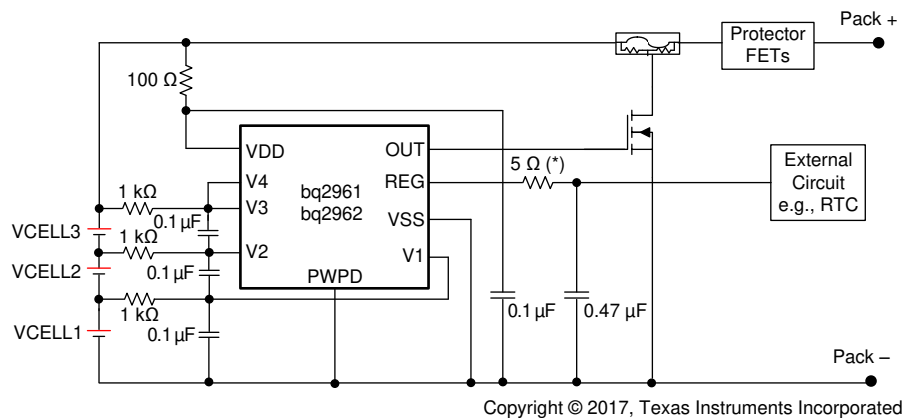
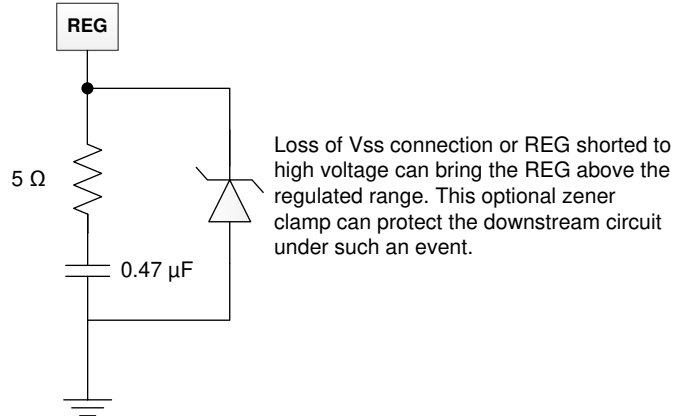

Figure 9-2. 3-Series BQ2961 and BQ2962 Schematic
Figure 9-3. 5-V Zener Diode
1. If the VSS pin cannot be connected first, it is required to add a resistor of a minimum of 5 Ω to a maximum of 10 Ω (a 5- Ω resistor is used in the reference schematic, Figure 9-2) in series with the REG capacitor. When VSS is floating, the REG capacitor always charges up to the VDD voltage. When VSS is finally connected, the REG capacitor will be discharged. Adding a small resistor in series reduces the current strength and avoids any potential damage to the REG pin. The 5- Ω resistor can be placed in series with the REG connect circuit (as shown in Figure 9-2) or in series of the REG capacitor (as shown in Figure 9-3). Placing the resistor in series with the REG circuit results in a small drop of V_{REG} (for example: max loading of I_{REG} mA with a 5- Ω resistor will drop 5 mV on V_{REG}), but such a connection can protect against rush current discharge from a REG capacitor or an external filter capacitor connected to the REG pin. Placing the resistor in series with the REG capacitor is an alternative to avoiding an additional drop in V_{REG} if the filter capacitor used by the external circuit is much smaller than the REG capacitor.
3. The cell should be connected to the lower V_n pin; the unused V_n pin should be shorted to the (V_{n-1}) pin. See Figure 9-2 for details.
4. A Zener diode can be added to the REG pin to VSS, as shown in Figure 9-3. This is recommended to protect the circuit connected to the REG pin if floating VSS in the field is a risk concern. When VSS is floating (during cell connection when VSS is not connected first or in a system fault with a broken BAT- wire), the REG voltage always pulls up to VDD. In a 4-series configuration, the REG voltage can reach approximately 16 V with VSS floating. Adding a Zener diode clamps the REG voltage to a safe level for the external circuits connected to the REG pin. Having the Zener diode can also protect the external circuits if the REG pin is shorted to the OUT pin or any other high-voltage output terminal. If a Zener diode is used, TI recommends putting the diode on the battery side with the BQ296xxx device to allow protection on the REG pin, as well as the circuit connected to REG under the floating VSS condition. The resistor in series with the REG pin is not required in this case.